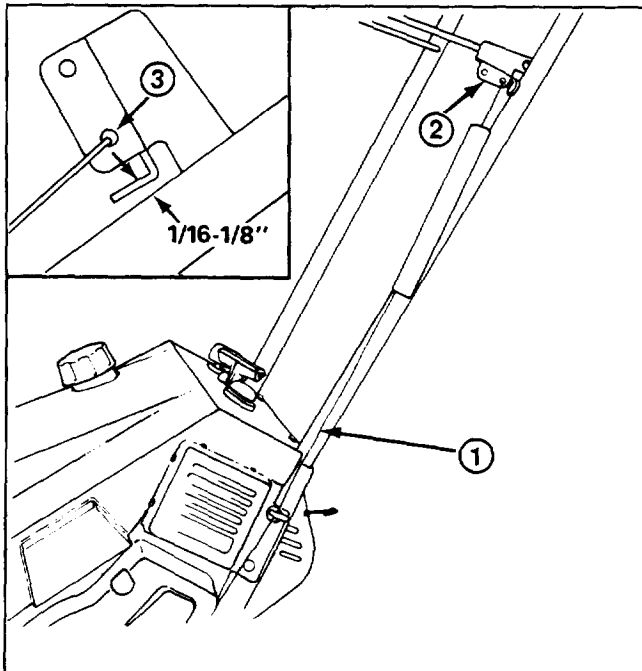

Figure 9
ADJUSTING CONTROL BAR (Fig. 9–10)
2. **CHECK ADJUSTMENT** (Fig. 9)—Move control bar back toward handle until slack in cable is removed. Gap between control bar bracket and handle should be approximately $1/16''$ – $1/8''$. If cable is too loose or too tight, proceed to step 3 for adjustment procedure.